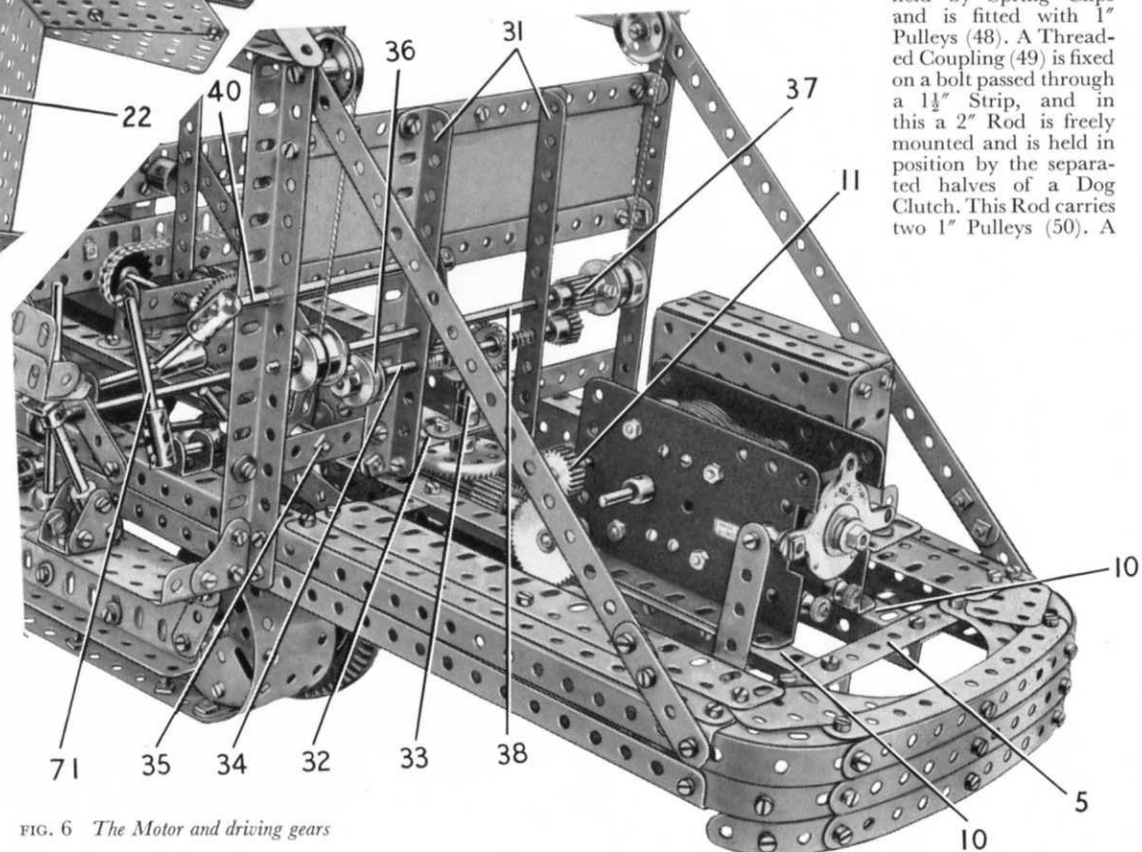

FIG. 6 The Motor and driving gears
An E15R Electric Motor is bolted by its flanges to the Girders (10) (see Fig. 6) and a
$\frac{7}{16}$ " Pinion on its armature shaft drives a 60-tooth Gear (see Fig. 2) on a $3\frac{1}{2}$ " Rod mounted in the Motor side-plates. This Rod carries a $\frac{3}{4}$ " Pinion (11) (Fig. 6) that drives a 50-tooth Gear on a $2\frac{1}{2}$ " Rod. A Worm (12) (Fig. 2) fixed on this Rod engages a $\frac{1}{2}$ " Pinion on an $11\frac{1}{2}$ " Rod (13). The bearings for Rod (13) are provided by a Double Arm Crank (14) and a $1\frac{1}{2}$ " Strip, each of which is attached to the Girders (10) by two Angle Brackets. The $1\frac{1}{2}$ " Strip is positioned immediately behind a $\frac{1}{2}$ " Pinion (15) (Fig. 8) fixed on the Rod, which carries also a $\frac{3}{4}$ " diameter $\frac{1}{2}$ " face Pinion (16) and a $\frac{3}{4}$ " Bevel Gear (17).
Two $5\frac{1}{2}$ " Angle Girders (31) are connected to the Girders (10) by Corner Angle Brackets, and each is joined to one of the Girders (2) by a 3" Strip. The Girders (31) are connected by two $5\frac{1}{2} \times 2\frac{1}{2}$ " Flexible Plates overlapped seven holes and edged by two $7\frac{1}{2}$ " Strips. These are attached to the Girders (2) by Angle Brackets. A $2\frac{1}{2} \times \frac{1}{2}$ " Double Angle Strip (32), with a Double Arm Crank bolted to it, is fixed between the lower ends of the Angle Girders (31) (Fig. 6).
A $1\frac{1}{2}$ " Contrate that meshes with the Pinion (16) (Fig. 6) is fixed on a $1\frac{1}{2}$ " Rod free in the Double Angle Strip (32) and in the boss of the Double Arm Crank. A $\frac{1}{2}$ " Pinion (33) is fixed on the upper end of the Rod. A cross shaft (34) is formed by a 5" Rod mounted in the Girders (31), and this carries two $\frac{3}{4}$ " Contrates arranged one on either side of the Pinion (33), with a Compression Spring between each Contrate and one of the Girders (31).
The movement of Rod (34) is controlled by a Bell Crank mounted on a Pivot Bolt (35) (Fig. 6). One arm of the Bell Crank is extended by a 1" Rod held in a Handrail Support, and a Threaded Pin is fixed in the other arm. The Threaded Pin engages a $\frac{1}{2}$ " loose Pulley (36) with a $\frac{3}{4}$ " Washer and a Collar on either side of it. A $\frac{1}{2}$ " Pinion on Rod (34) drives a $\frac{1}{2}$ " diameter, $\frac{1}{2}$ " face Pinion (37) on an 8" Rod (38). This Rod carries two pairs of $\frac{3}{4}$ " Flanged Wheels and a Ratchet Wheel (39). A Pawl on a $4\frac{1}{2}$ " Rod (40) engages